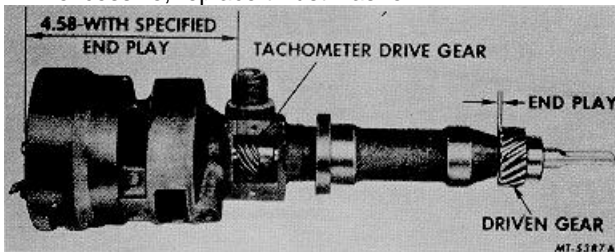

Fig. 34 Locating Tachometer Drive Gear
- d. Measure and record the distributor shaft end play and the location of the tachometer drive gear (Fig. 34). This information will be required to reassemble the distributor. If end play exceeds specified limits, replace distributor shaft and gear. On distributors having gear-to-housing thrust washer, measure end play between gear and thrust washer. If end play is excessive, replace thrust washer.